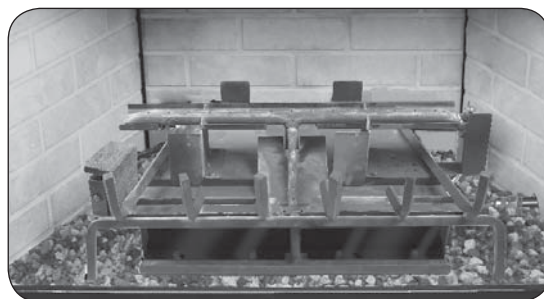

Fig. 13-2 Place lava media
- Spread the supplied lava granules on the floor of the fireplace, around the front and sides of the burner system (see Fig. 13-2). The lava granules may be placed around the switch box. Leave the front of the switch box clear for control access.